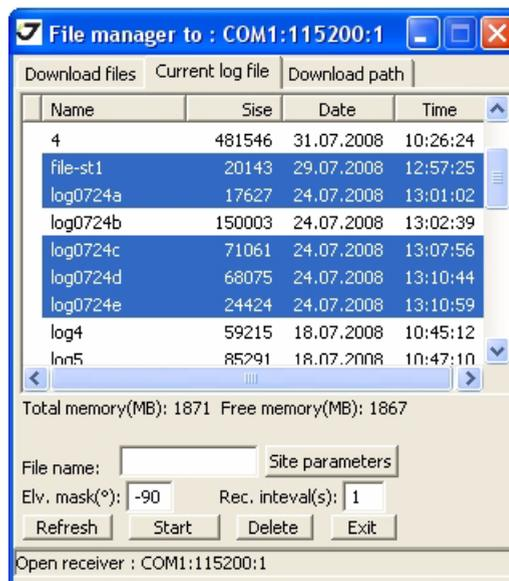

Figure 5-6. Current log files tab
3. Click *File->File Manager* and select the file(s) to delete on the *Current log files* tab (Figure 5-6).
5. Click *Delete* (Figure 5-6 on page 79).